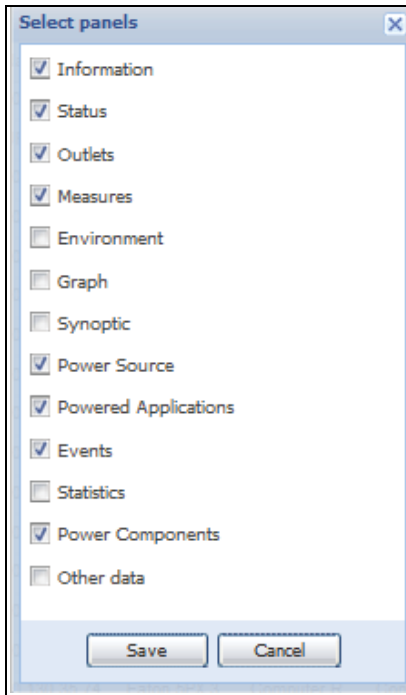

Figure 52. Panel Selection Dialog Box
4. Select or deselect (check or uncheck) to select which panels you want to add in the selection view (see Figure 52).